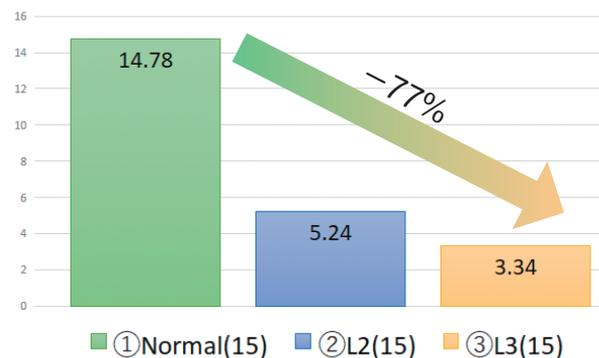

Fig. 1 Dose Level for Each Fluoroscopy Mode (AKR in mGy/min)
The fluoroscopy image processing engine in the G4 system currently used for ERCP includes functionality for reducing X-ray dose from fluoroscopy, of which we mainly use the (1) normal dose, (2) L2 (low-dose 2), and (3) L3 (low-dose 3) modes. A pulse rate of 15 frames is used for all three modes, but a 7.5 frame fluoroscopy mode is also available. (See Fig 1.)